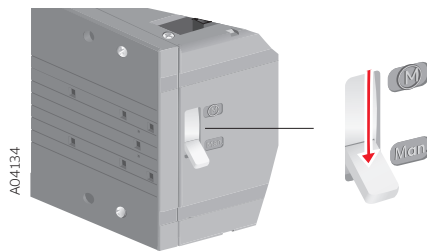

Figure 8.5 Motor/Manual selection in the Man. position
1. Turn the Motor/Manual selector to the Manual (Man.) position, see Figure 8.5. The motor operator is switched off and electrical operation is prevented.